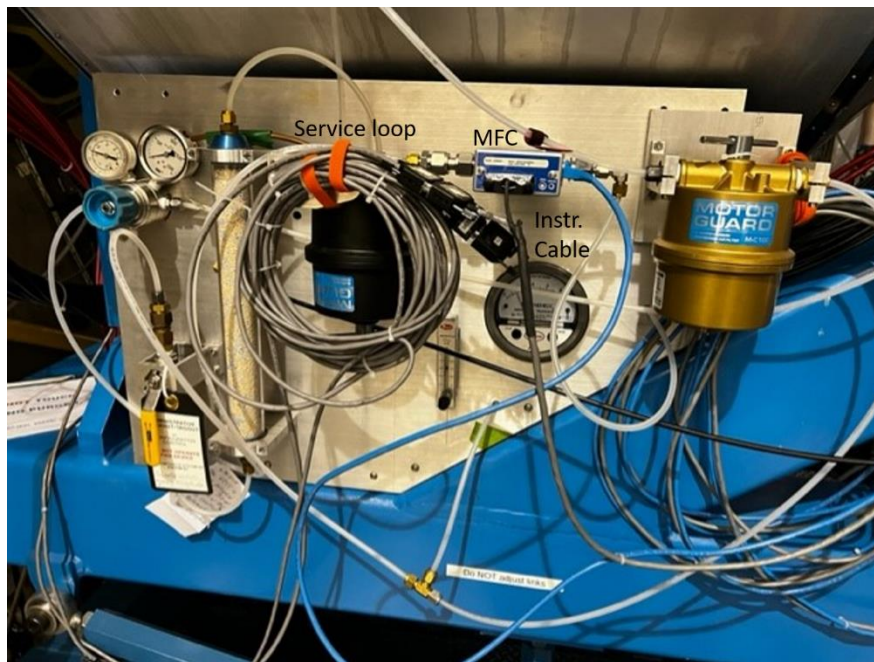

Figure 1. HTCC gas panel with instrumentation and service loop
- The cable has a service loop coiled at the detector gas panel (see Fig 1.)